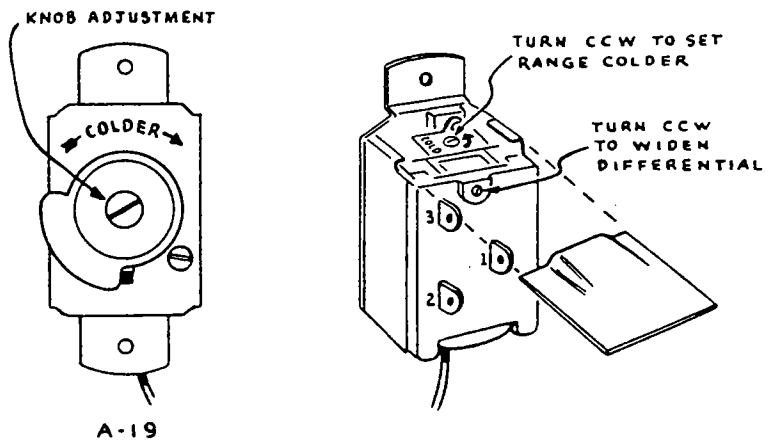

FIG. 16
**CONTROL FUNCTIONS AND SETTINGS (See Fig. 16)**